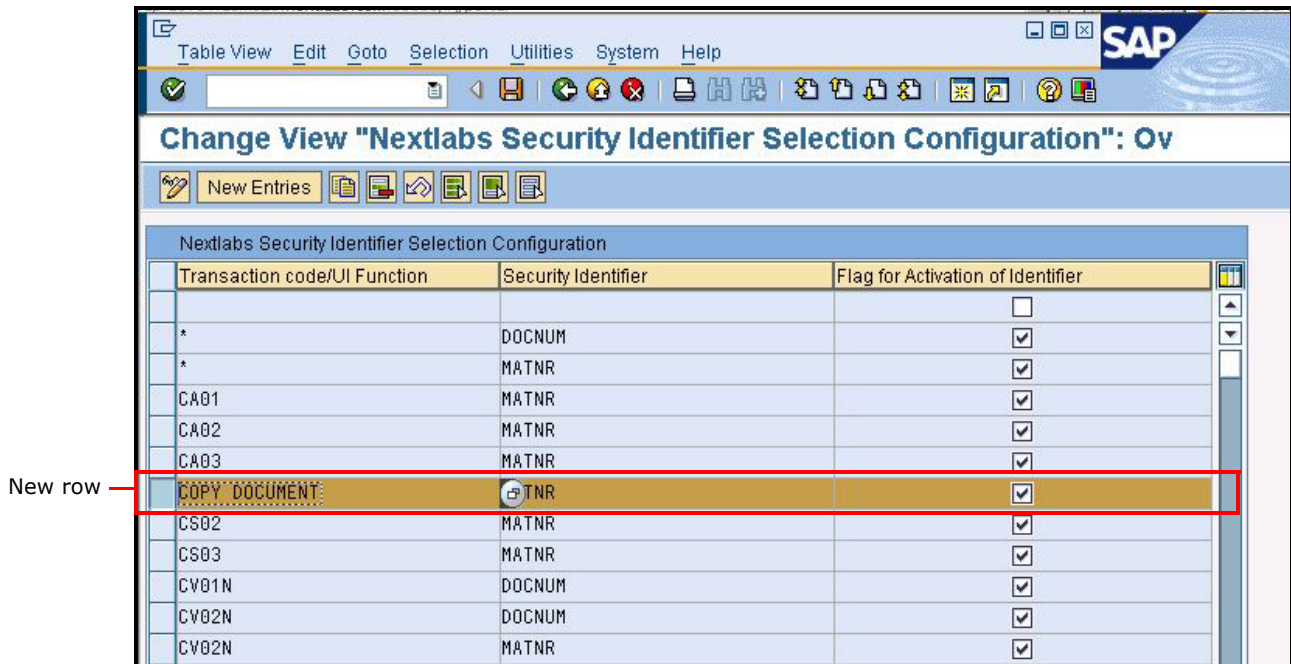

Figure 4-48: New entries in the Security Classification Selection Configuration screen
- When you finish entering activation settings, click **Save** and return to the *NextLabs Security Classification Selection* screen. Each new activation record you created appears as a new row, as shown in Figure 4-48.